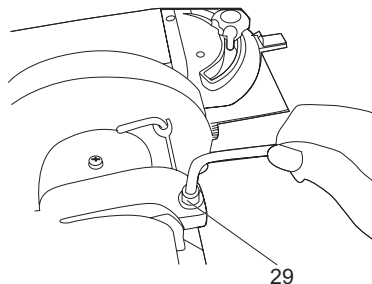

Fig. 17
- > Loosen the fixing screw (29) with the 6mm hex key provided. Place the belt sanding body to a vertical position then tighten the fixing screw (29). (Fig 17)
(see Fig 17)